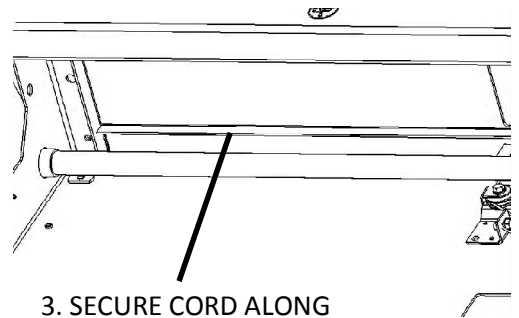

FIG. 5
3. Run the Receptacle Cord across the inside top of the cabinet base, securing with (2) 3707224 Cable Tie Mounts and (2) 3707225 Cable Ties. See FIG. 5. Make sure the cord will not interfere with the movable rear roller clamp.